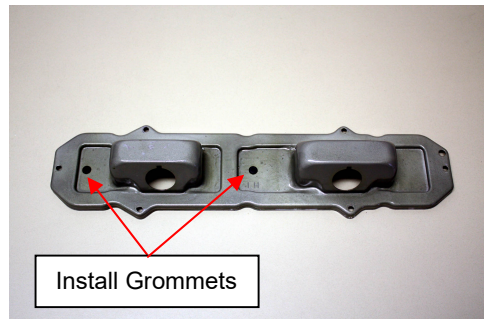

Figure 2
- 4.1. Install 2 of the provided rubber grommets into the vent holes in the back housing plates. (See Figure 2)